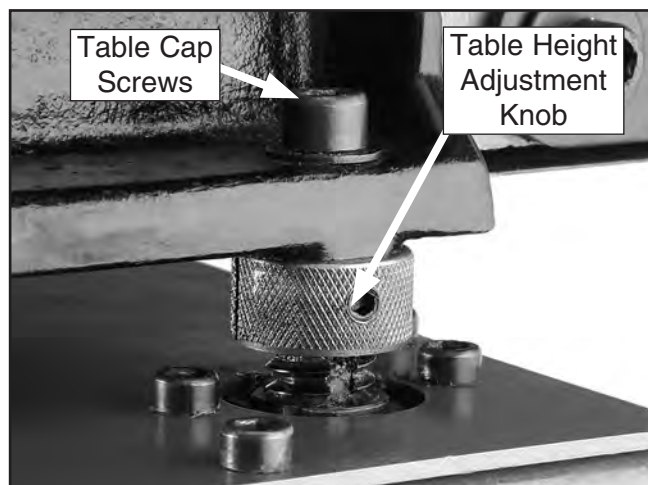

Figure 46. Table height adjustment knob.
7. Loosen table cap screws and adjust height of table by rotating adjustment knob shown in **Figure 46**.